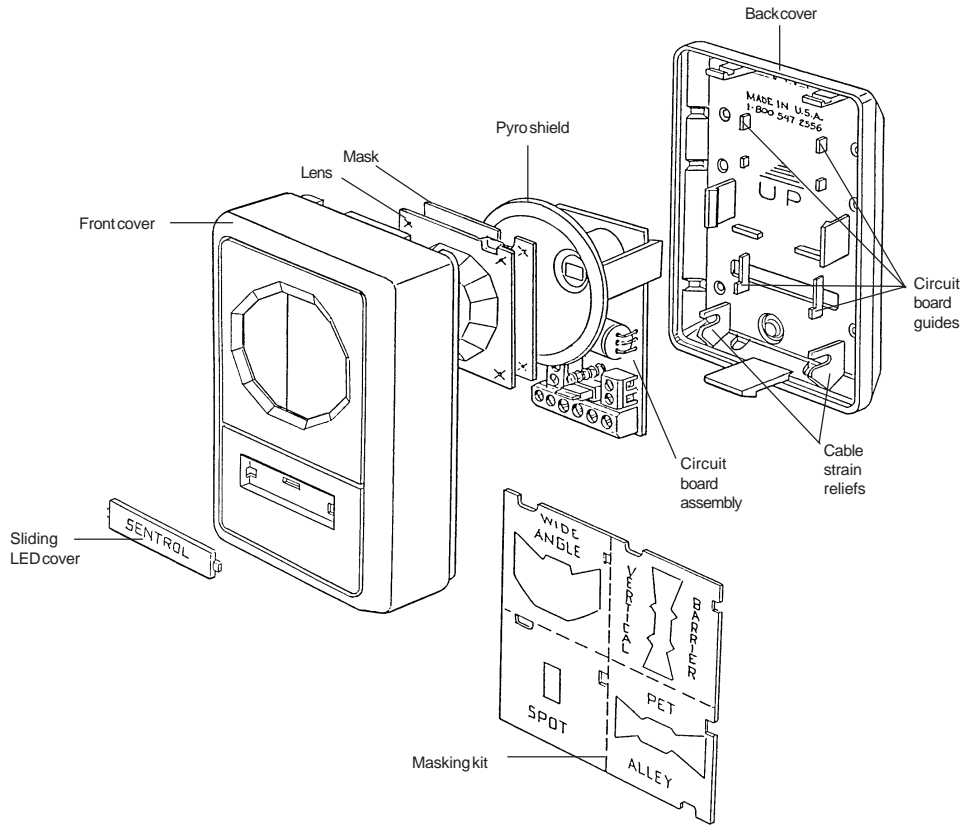

Figure 1. Exploded view
2. Remove the circuit board assembly by holding the pyro shield and pulling it out of the back cover. See Figure 1.
4. Snap the circuit board assembly onto the back cover by aligning the lower edge of the board with the circuit board guides and pressing it into place. See Figure 1.
8. After walk testing, the LED cover can be used to cover the LED. See Figure 1.
Strip back the outer jacket on the wiring cable. This will allow wires to flex in the case. Use the cable strain relief built into the back cover to prevent stressing wires at their connection. See Figure 1.